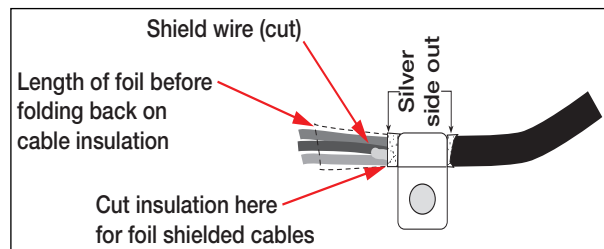

Figure 2-2. Foil Insulated Cable
3. Mark the cables to remove insulation and shield (Figure 2-2).